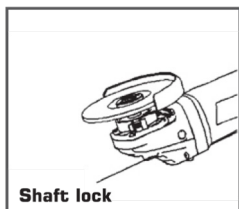

Fig4
2.To tighten the outer flange, press the shaft lock firmly so that the spindle cannot revolve, then use the lock nut wrench and securely tighten clockwise. (Fig. 4)